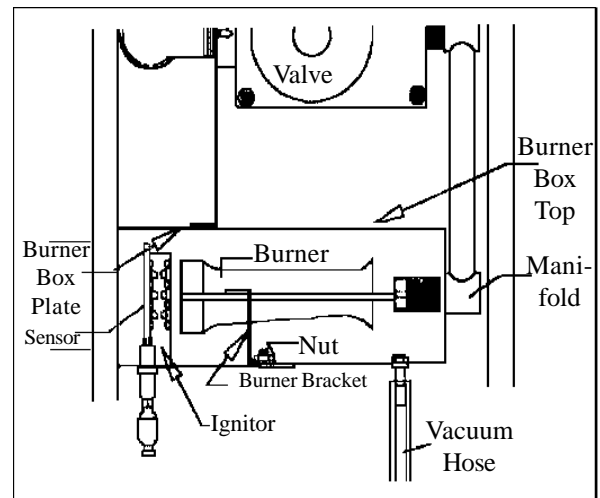

FIGURE 13
4. Unplug wire to ignitor and sensor. (See Fig. 13.)
6. Remove screws holding burner box top to burner box. (See Figure 13.)
7. Remove burner plate and burner box top. Take care not to contact, or strain ignitor in any way as it is extremely fragile. (See Figure 13.)
8. Remove 2 nuts holding burner bracket. (See Figure 13.)
9. Slide burners toward heat exchanger and lift up from rear and back. (See Figure 13.)